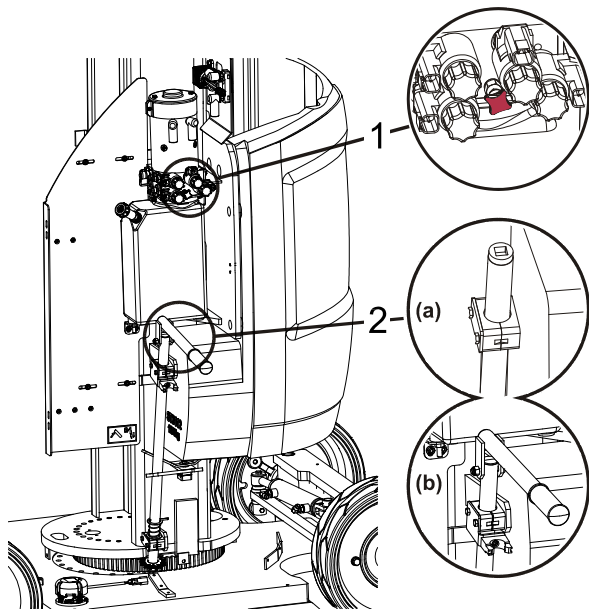

Figure 3-5. Manual Swinging Operating Devices
- a rotary valve (1) located on the pump/motor control valves assembly to release the swinging motor (Refer to Figure 3-5).
- a pinion (2), located below the pump/motor control valves compartment, that can be operated using, depending on equipment, a square 1/2 inch ratchet wrench (a) or the folding lever (b).